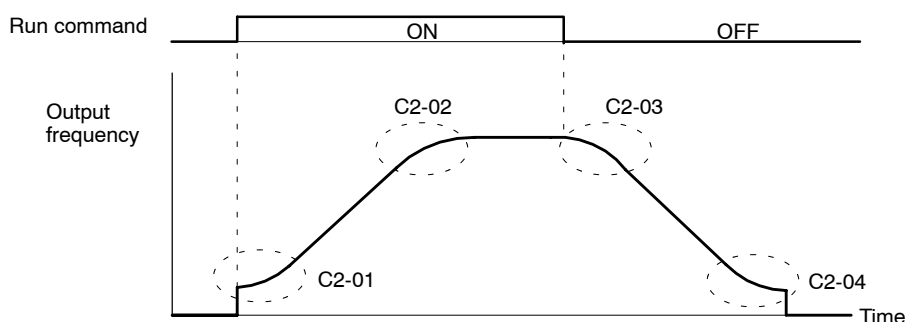

Fig 7.27 Setting S-curve Characteristics
- The relation between these constants is shown in *Figure 7.27*.